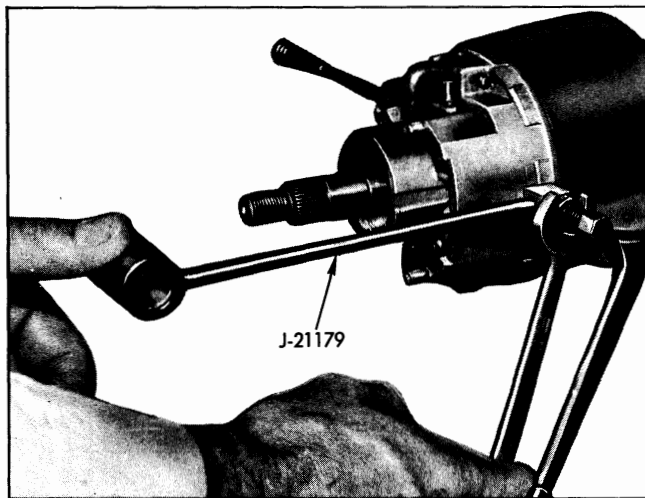

Fig. 9-27 Removing Pivot Pins
14. Remove two pivot pins with tool J-21179 (Fig. 9-27).